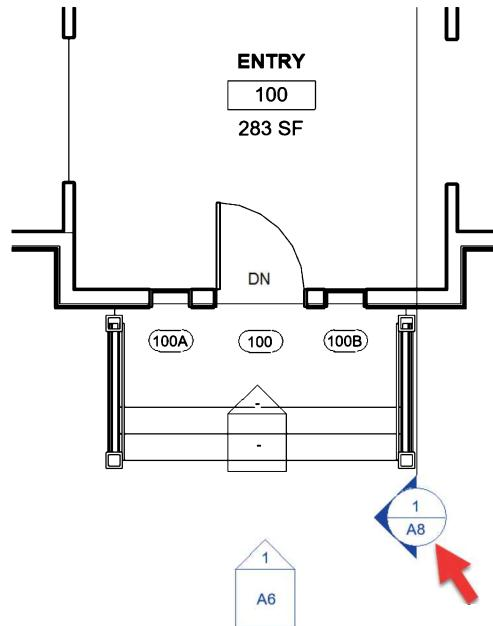

FIGURE 15-1.9 First Floor – Section ref's filled in
27. Switch to *First Floor* plan view and zoom into the area shown in Figure 15-1.9.